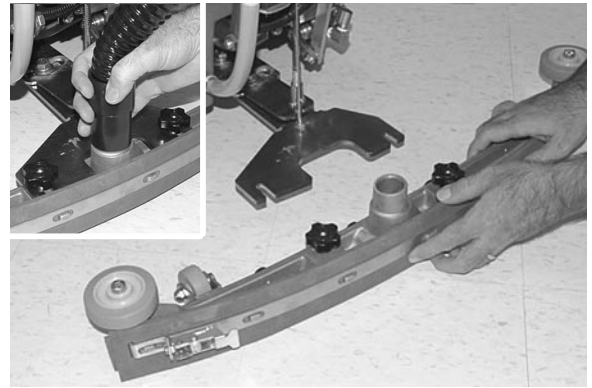

FIG. 2
2. Loosen two thumb knobs on squeegee and slide squeegee into slot at rear of squeegee mount bracket (Figure 2). Tighten thumb knobs securely.
3. Connect vacuum hose to squeegee assembly (Figure 2).